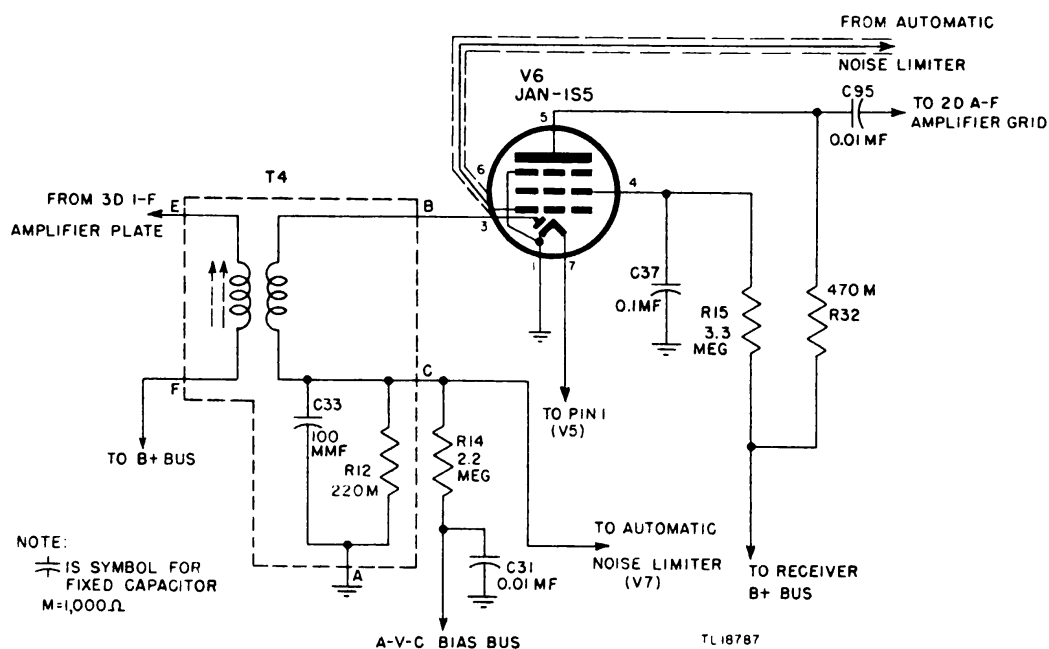
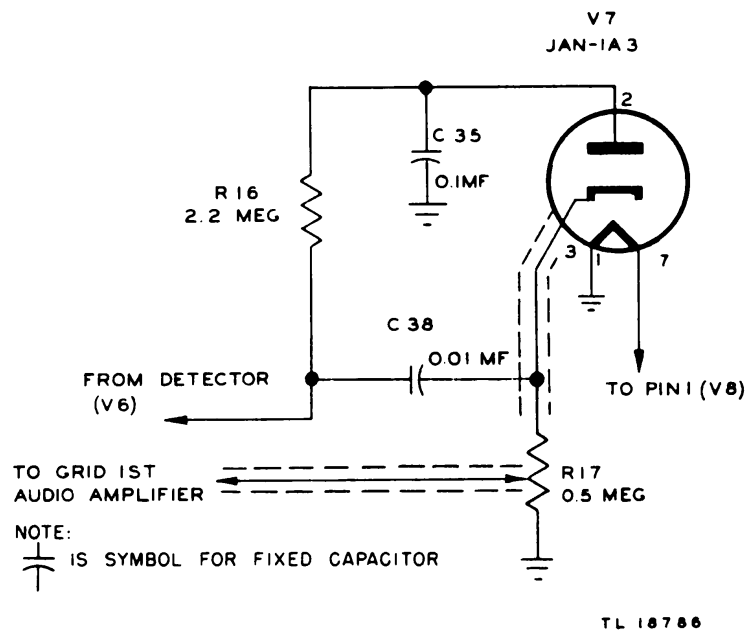
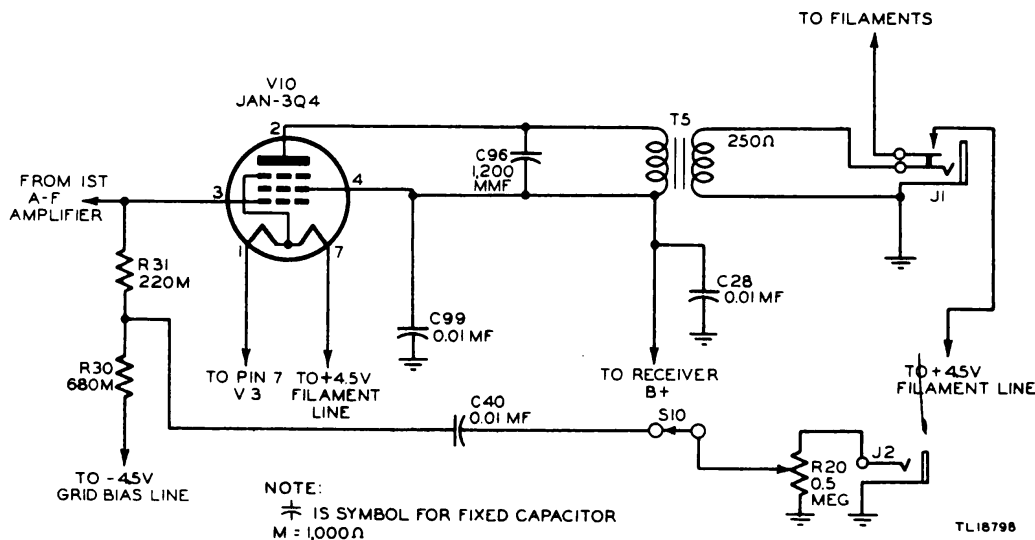

Figure 55. Receiver diode detector and first audio amplifier.
Figure 56. Receiver noise limiter.
Figure 57. Receiver second a-f amplifier.
a. The diode detector (fig. 55) is the diode section of diode-pentode Tube JAN-1S5, V6. The voltage appearing across the secondary of transformer T4 is applied between the diode plate and filament. The diode circuit goes from ground at the filament, through the tube to the diode plate, through the secondary of transformer T4, through resistor R12 and capacitor C33 in parallel, and back to ground.
b. When the polarity of the signal voltage at the secondary of the transformer is such that the plate of the diode is positive with respect to the filament, the tube conducts. The direction of current flow is down through resistor R12 to ground. This causes a negative signal to appear at point C (fig. 55). Capacitor C33 bypasses the i-f component of the signal and only the audio component appears across resistor R12. This audio voltage is applied to the noise limiter circuit.
a. The noise limiter circuit (fig. 56) is designed to cut down sudden increases in signal volume caused by noise impulses due to static or near-by electrical machinery. Under normal signal conditions the plate of diode Tube JAN-1A3, V7, is held at a negative potential by the charge on C35. This capacitor is charged to the average negative potential of the signal at point C (fig. 55) through resistor R16. The time constant of the RC combination of capacitor C35 and resistor R16 is long compared to audio frequencies, and the capacitor holds a charge which follows the average signal potential and not the audio variations. The cathode of the diode is at d-c ground potential because of the blocking action of capacitor C38. The diode cannot conduct under these con-
b. When a sudden noise pulse is received, point C (fig. 55) is driven sharply negative. The negative pulse is coupled to the noise limiter tube through capacitor C38. The cathode of tube V7 goes more negative than the plate and the tube conducts. Resistor R17 is thus effectively shunted by a low-impedance path through the diode and capacitor C35 to ground for the duration of the noise pulse. The noise pulse voltage, therefore, is greatly reduced across resistor R17.
A portion of the audio signal across resistor R17 is applied to the control grid of the pentode section of Tube JAN-1S5, V6, through a shielded lead (fig. 55). This signal is amplified in the plate circuit and appears across plate load resistor R32. The plate is bypassed for radio frequency by capacitor C13 while capacitor C94 acts as a decoupling capacitor for the plate supply circuit. Screen voltage is applied through dropping resistor R15 which is bypassed for audio frequency by capacitor C37.
a. The output of the first a-f amplifier is coupled from the plate of tube V6 to the second a-f amplifier stage through capacitor C95 (fig. 55). Grid voltage for second amplifier Tube JAN-3Q4, V10 (fig. 57),